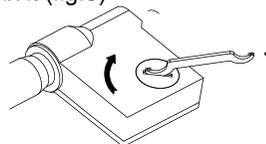

图3
- Put the battery cover back and turn 45° clockwise to fix it (fig.3)